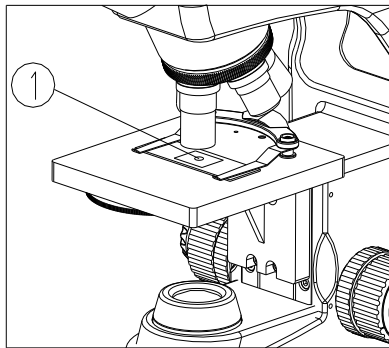

Fig. 12
3. Place a drop of oil ① on the specimen observed (see Fig. 12)